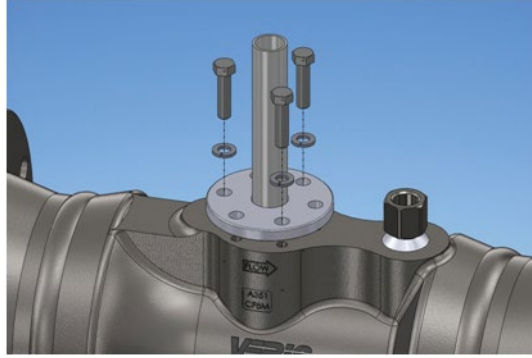

Figure 5. Packing Bolts Installation
- Install packing bolts per orientation shown in Figure 5, hand tighten.